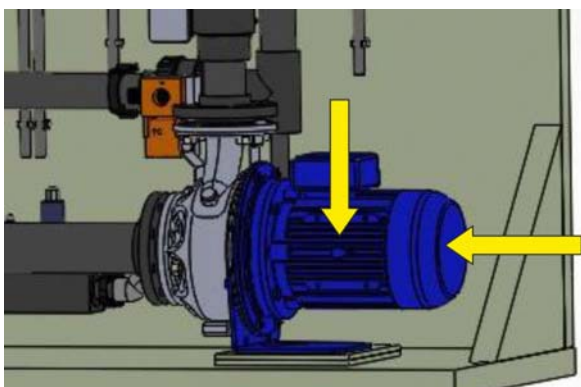

Figure 7-10: Fins and intake grille of the pump motor
5. Check the fins and the intake grille of the pump motors for excessive dust accumulation (see figure 7-10). Wipe them clean with a brush.